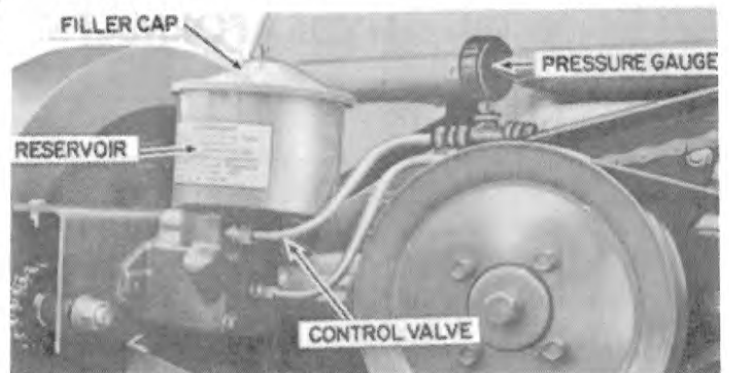

FIGURE 62
**HYDRAFORMATIC BALE TENSION CONTROL** — See Figures 62 and 63. The hydraformatic insures uniform bale weight under all conditions.